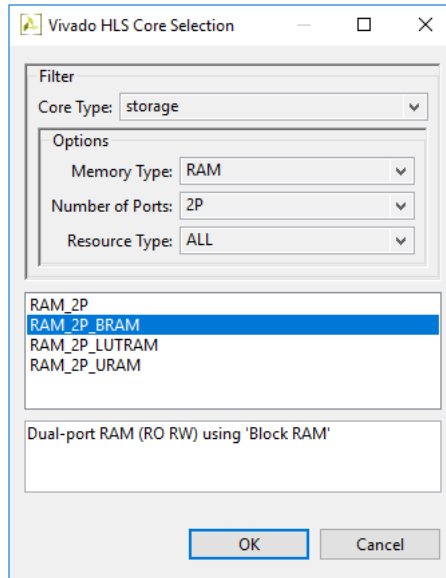

Figure 4-18: Specifying a Dual-port RAM
- d. Verify that the settings in the Directive Editor dialog box are as shown in Figure 4-18 and click **OK**.